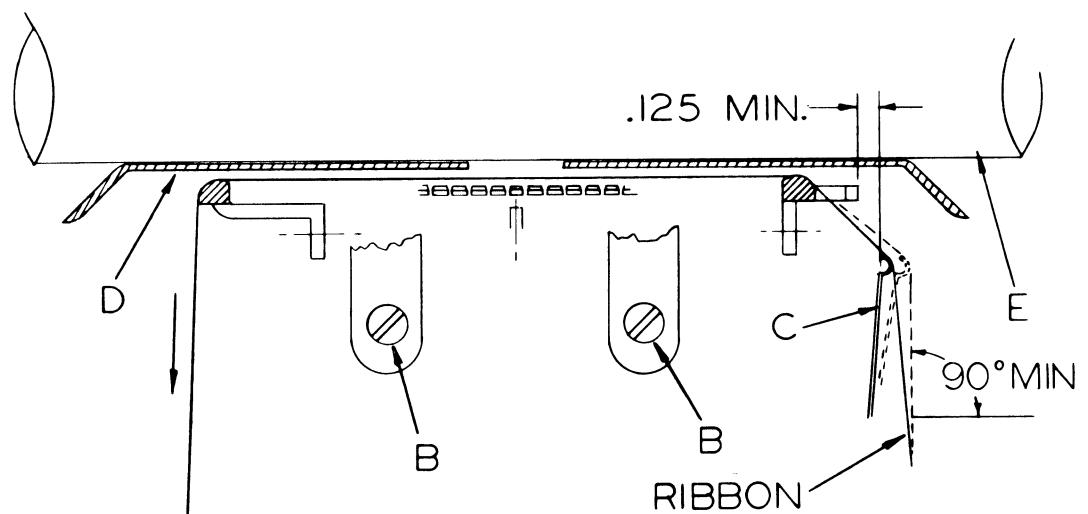
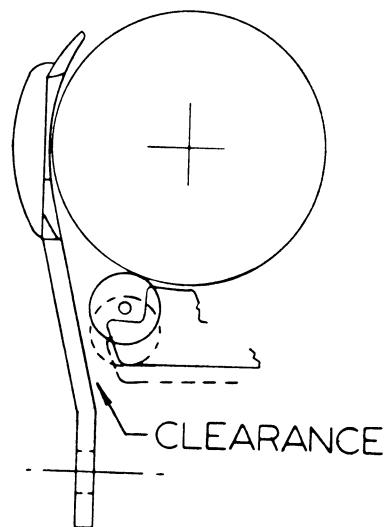

FIGURE 7-12
FIGURE 7-13
The card guide depth adjustment establishes the proper operating clearance between the plastic card guide and the surface of the platen. Take care in adjusting the depth to be certain that there is no interference between the card guide and the stationary paper feed rollers (Figure 7-13).
- (1) Remove power from the printer. Place the forms thickness selector lever in its extreme forward position. Remove ribbon cartridge and printwheel.
- (2) Refer to Figure 7-12. Loosen the two screws **(B)** that secure the card guide's support stanchions.
- (3) Move the card guide toward the platen, so that it is parallel to the platen's working surface, until the guide just grazes the platen or even contacts the platen under a very slight preload.
- (4) Re-tighten the two screws that were loosened in Step #2 above, to secure this adjustment.
- (5) Move the forms thickness selector lever to the rear. The tension of the card guide against the platen surface should not be so great that the card guide follows the platen to the rear.
- (6) Move the carriage assembly by hand throughout the full range of its travel, and ensure that the card guide slides freely over the platen's working surface. At the same time, observe that there is adequate clearance between the guide and the forward paper feed rollers, as shown in Figure 7-13, when the paper release lever is in its extreme forward position (released). If necessary, repeat Steps #2 through #5. This completes the adjustment.